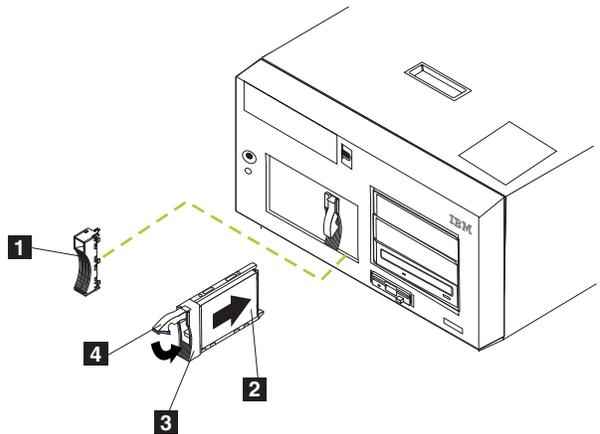

Figure 44. Replacing a hard disk drive in a hot-swap drive bay
4. Install the replacement hot-swap hard disk drive in the hot-swap drive bay (see Figure 44 on page 104).